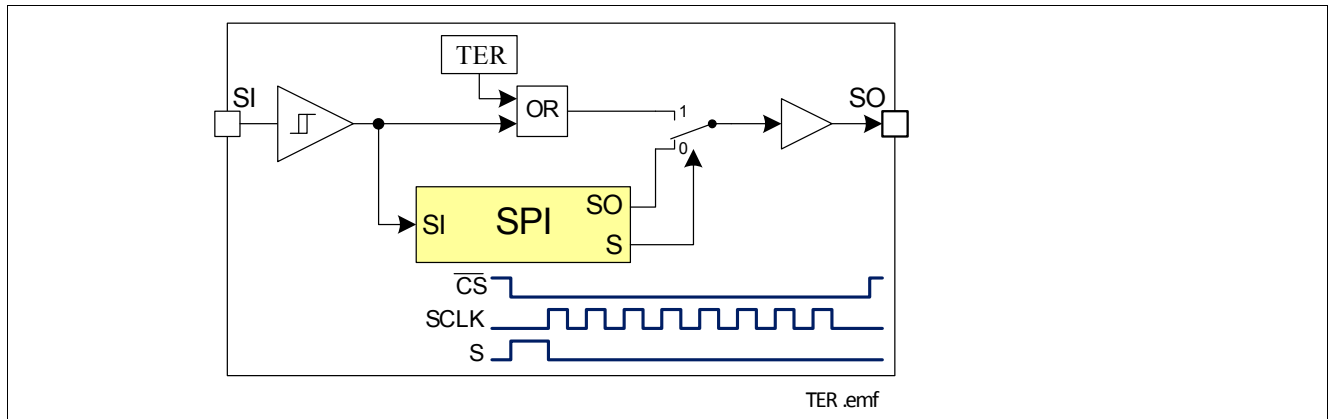

Figure 10 Transmission Error Flag on SO Line
- SO changes from high impedance state to high or low state depending on the logic OR combination between the transmission error flag (TER) and the signal level at pin SI. As a result, even in daisy chain configuration, a high signal indicates a faulty transmission. The transmission error flag is set after any kind of reset, so a reset between two SPI commands is indicated. For details, please refer to Figure 10. This information stays available to the first rising edge of SCLK.